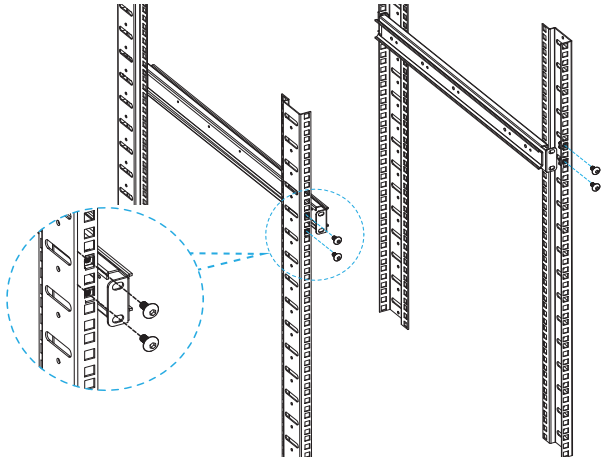

Figure 2
4. Mount the **Rail Assembly** (x 2) by inserting the **M5 Screws** (x 8) through the **Plastic Washers** (x 8), **Rail Assembly Mounting Holes**(x 2), and into the **M5 Cage Nuts** (x 8). Tighten the **Screws** (x 8) using a **Phillips Head Screwdriver**. (Figure 2)